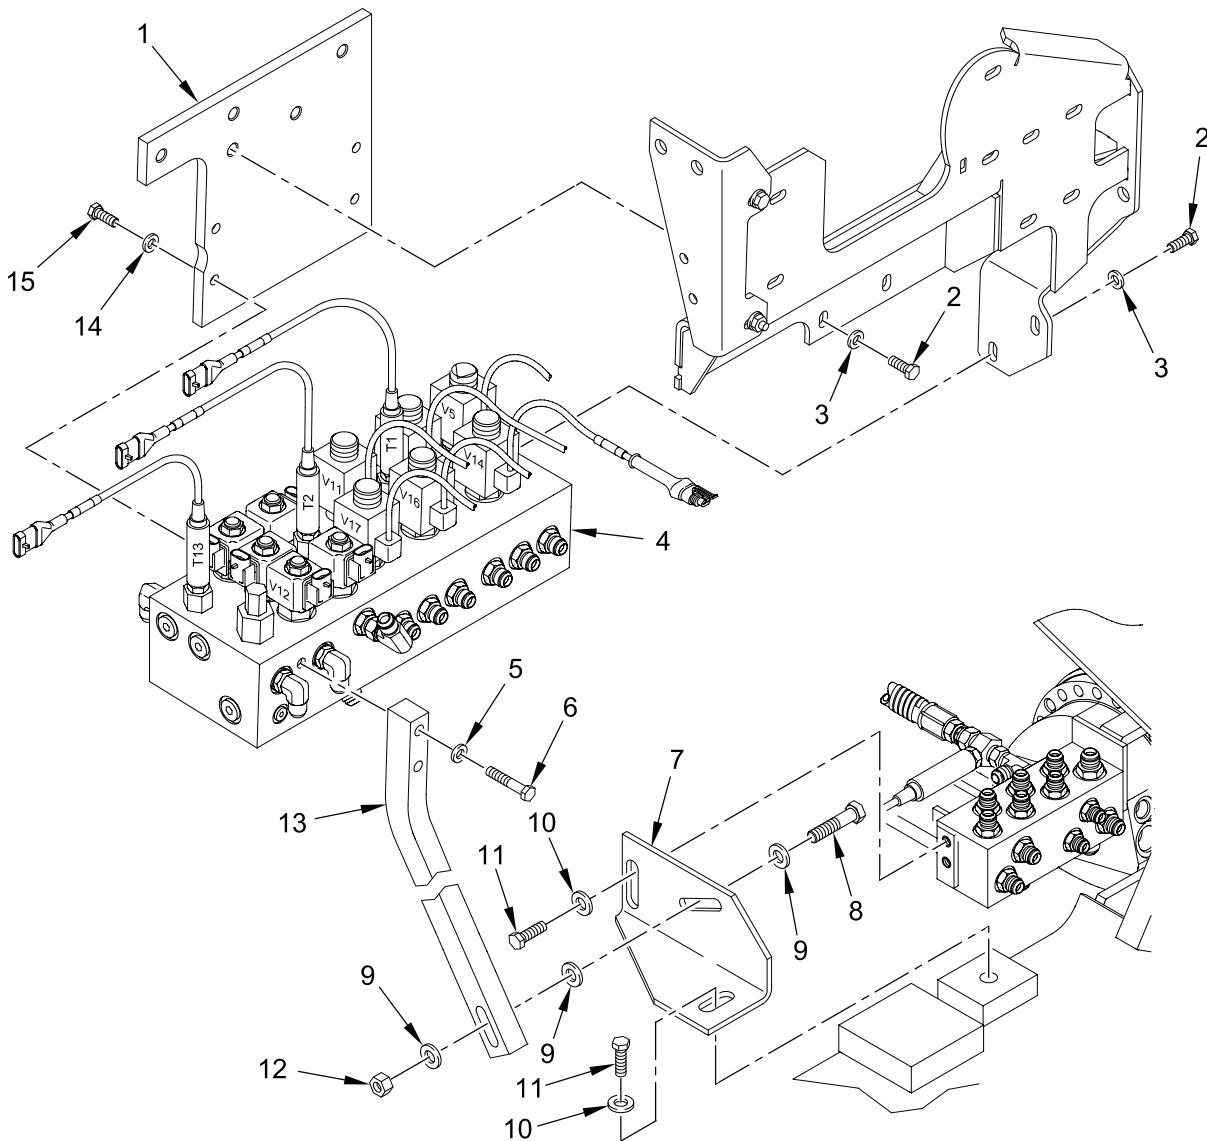

Figure 2. Removing HDC Primary Manifold Assembly and Mounting Bracket
4. Remove two self-locking screws (Figure 2, item 6), two flat washers (Figure 2, item 5), screw (Figure 2, item 8), three flat washers (Figure 2, item 9), self-locking nut (Figure 2, item 12), and lateral support bracket (Figure 2, item 13) from primary manifold (Figure 2, item 4) and hull floor support bracket (Figure 2, item 7). Discard self-locking screws and self-locking nut.
5. Remove three self-locking screws (Figure 2, item 11), three flat washers (Figure 2, item 10), and hull floor support bracket (Figure 2, item 7). Discard self-locking screws.
6. Fully supporting weight of primary manifold (Figure 2, item 4), remove seven self-locking screws (Figure 2, item 2), seven flat washers (Figure 2, item 3), and primary manifold (Figure 2, item 4) with mounting plate (Figure 2, item 1). Discard self-locking screws.
7. Remove four self-locking screws (Figure 2, item 15), four flat washers (Figure 2, item 14), and mounting plate (Figure 2, item 1) from primary manifold (Figure 2, item 4). Discard self-locking screws.